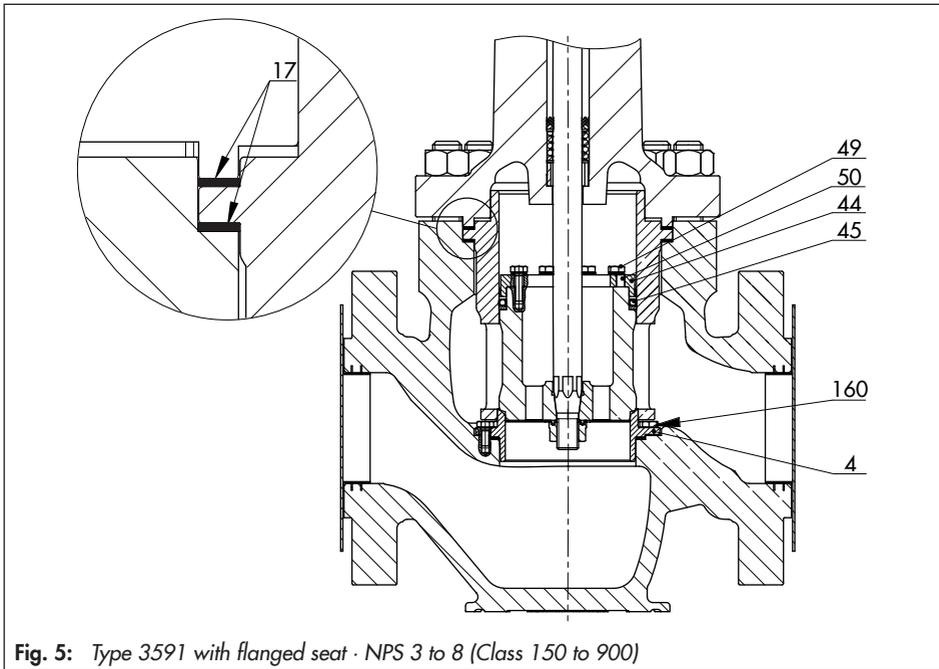

Fig. 5: Type 3591 with flanged seat · NPS 3 to 8 (Class 150 to 900)
The Type 3591 Valve is available either with a clamped or flanged seat (4). The seat is inserted into the seat bridge in the version with clamped seat. The seat and cage are clamped into place by tightening the body nuts (14) (see Fig. 4). The seat of the version with flanged seat is bolted into the seat bridge. The cage (124) is suspended in the valve body (1) (see Fig. 5 to Fig. 8). In valve sizes \geq NPS 10 and pressure ratings \geq Class 300, a pin (223) is used on the cage to prevent it from rotating (see Fig. 7). Table 1 lists the different versions together with their special construction features.
Legend for Fig. 5 to Fig. 7